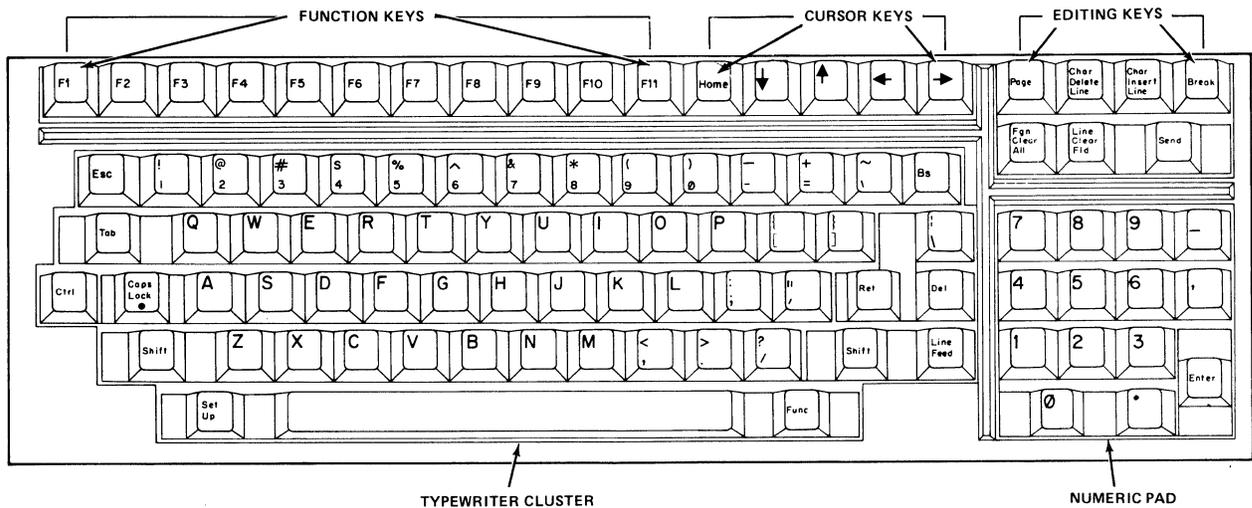

Figure 3-2. Keyboard
3.2.1 Introduction. The keyboard contains 2 clusters, the Qwerty Cluster and the Numeric Cluster as shown in figure 3-2. The typewriter and cursor keys automatically repeat if they are held down for longer than 3/4 second. This feature is called the typamatic mode. Depression
3.2.3 Numeric Cluster. The numeric cluster as shown in figure 3-2 is designed like a calculator pad and is used for easy numeric entries. All keys in the numeric cluster are typamatic with the exception of the enter key. As defined in table 3-2, the 14 keys of the numeric pad can be selected to be an alternate pre-programmed function key cluster.